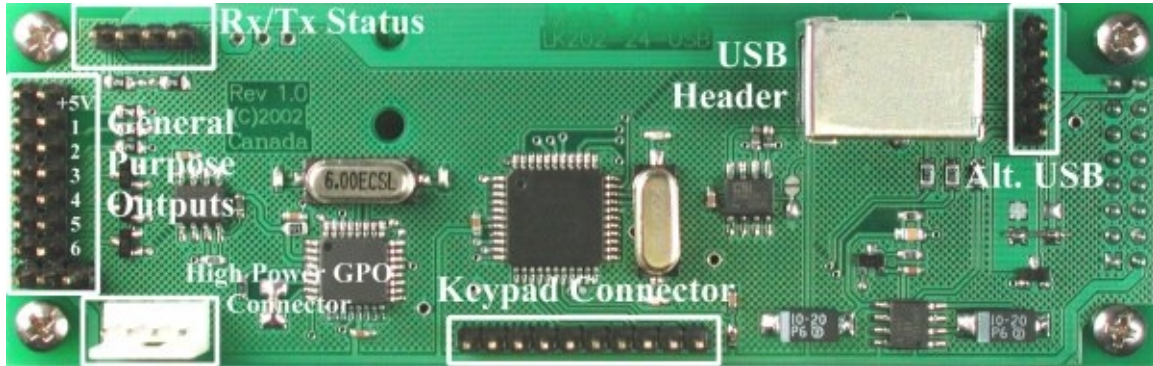

Figure 2-1 Electrical Connections
1. Refer to the diagram above and Figure 2-1 for the following steps.